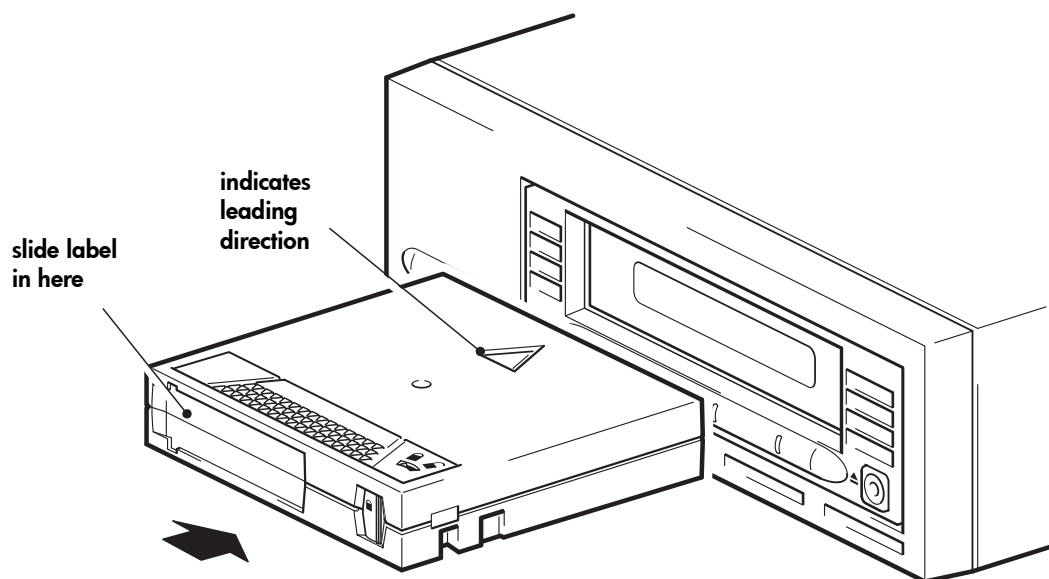

Figure 7a: loading a cartridge
- 1 Insert the DLTtape VS1 cartridge into the slot in front of the drive with the markings uppermost and facing the drive door. Apply gentle pressure until the drive takes the cartridge and loads it. See Figure 7a.